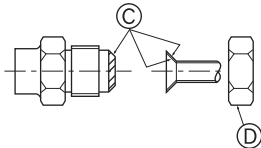

Fig. 4-2
A (Fig. 4-2)
B (Fig. 4-2)
4.2. Connecting pipes (Fig. 4-2)